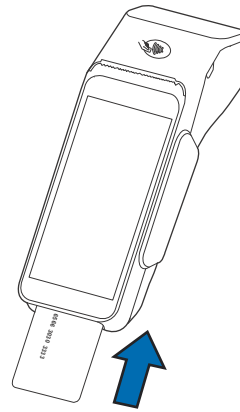

Figure 11 Inserting a Smart Card
- A magnetic card reader built into the device for performing debit or credit card transactions. The card can be swiped from either direction. To ensure a proper read of the magnetic swipe card, insert the magnetic card from the side of the device as shown in Figure 11.
- 1 Position the smart card with the contacts facing upward (see Figure 11).